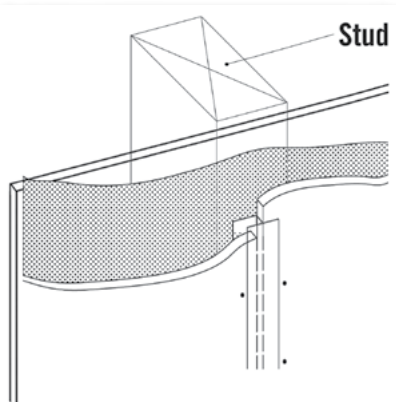

Fig. 12.3
- Use metal or PVC H-channel connector in accordance with manufacturer's instructions. (Fig. 12.3)